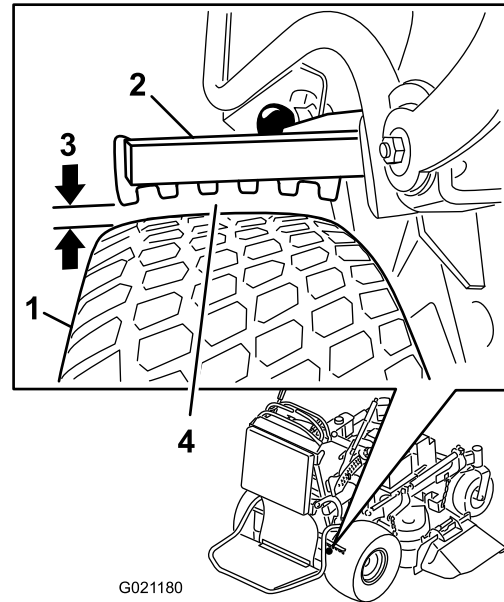

Figure 62
6. Using the side with the smallest clearance, ensure that the distance is between 3 and 6 mm (1/8 and 1/4 inches) as shown in Figure 62; refer to Adjusting the Brakes \(page 44\) when adjustment is needed.
5. Adjust the yoke (Figure 62).